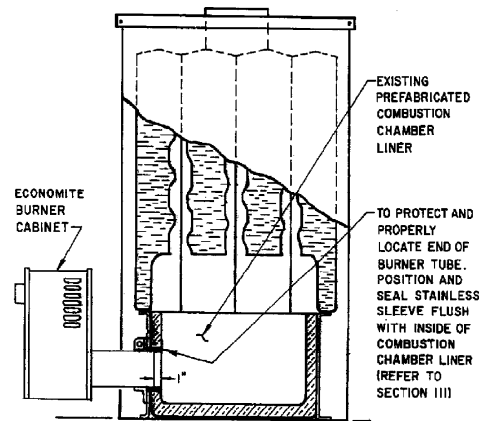

FIGURE 1 Dry Base Boiler with Combustion Chamber Liner (Furnace Construction is Similar)
□ The burner tube, or the stainless steel sleeve that is included with the burner, must be sealed air tight into the combustion chamber liner opening with refractory material as shown by Figures 1 and 2. The sleeve is preferred as it is designed to properly locate the end of the tube relative to the inside wall of the combustion chamber, and to permit burner removal without breaking the seal.
WARNING: BURNER CABINET MUST BE MOUNTED IN ORIENTATION SHOWN IN FIGURES 1 AND 2. ANY OTHER MOUNTINGS MAY CAUSE A DANGEROUS CONDITION, AND WILL VOID BURNER WARRANTY AND AGENCY APPROVALS. NON-STANDARD ARRANGEMENTS MAY BE AVAILABLE FOR SOME MODELS - CONSULT FACTORY FOR DETAILS IF REQUIRED.